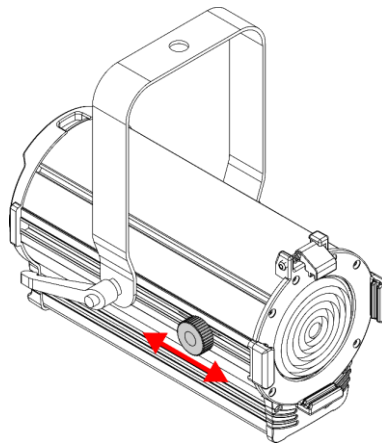

Fig. 18
- 01) Turn the **zoom control (05)** counterclockwise to loosen it.
- 02) Slide the **zoom control (05)** forwards or backwards to achieve the desired beam angle (see Fig. 18).
- 03) After adjusting the beam angle, turn the **zoom control (05)** clockwise to tighten it. Do not overtighten it.